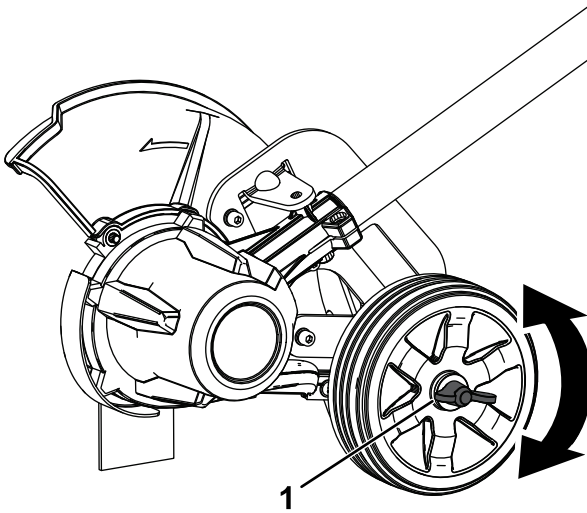

Figure 10
2. Loosen the wing nut on the wheel and move it up or down in the track to increase or decrease the depth (Figure 10).